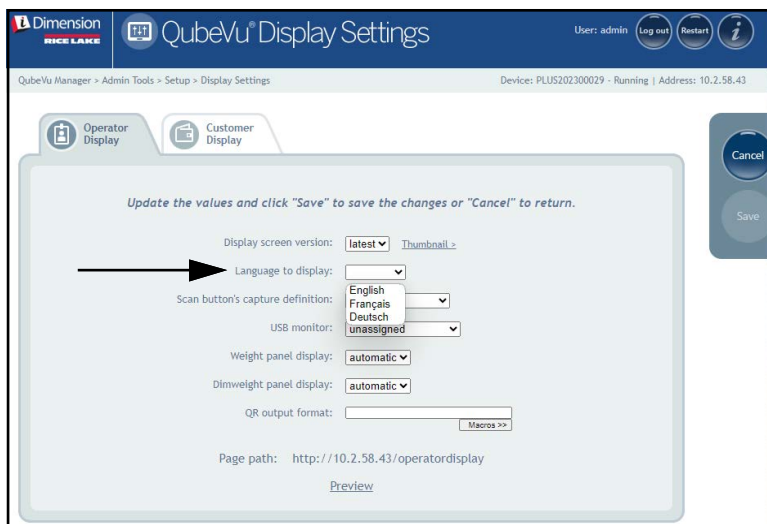

Figure 7-6. Language Setup
- Select the desired language from the Language to Display drop-down menu (see Figure 7-6).